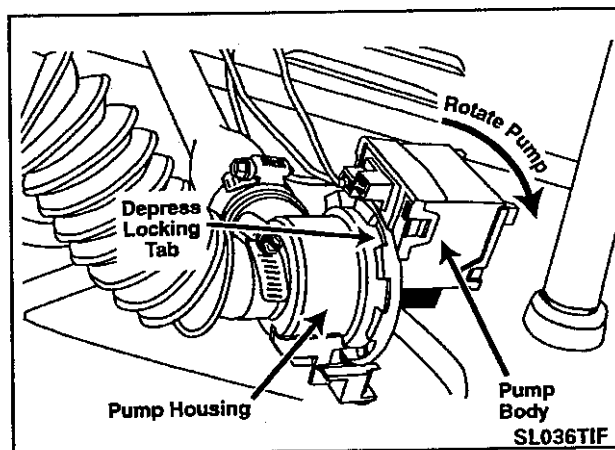

Figure 6-7
5. Rotate the pump assembly in a counter-clockwise direction. The support legs of the pump are slotted to engage in keyed slots in the base. Reverse the steps to re-mount the pump (*Figure 6-7*).